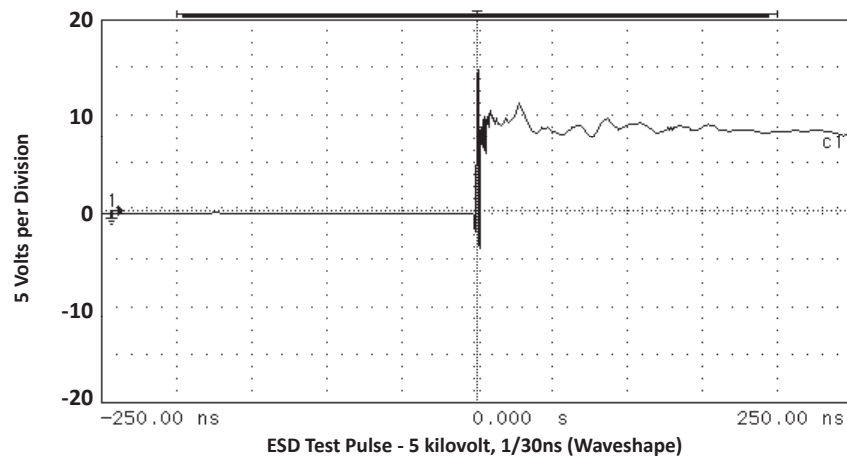

FIGURE 5
- As shown in Figure 5, REF 1 is connected to ground, REF 2 is connected to + $V_{CC}$  and input applies to  $V_{CC} = 12V$ ,  $V_{SIGN} = 30mV$ ,  $F = 1MHz$ .